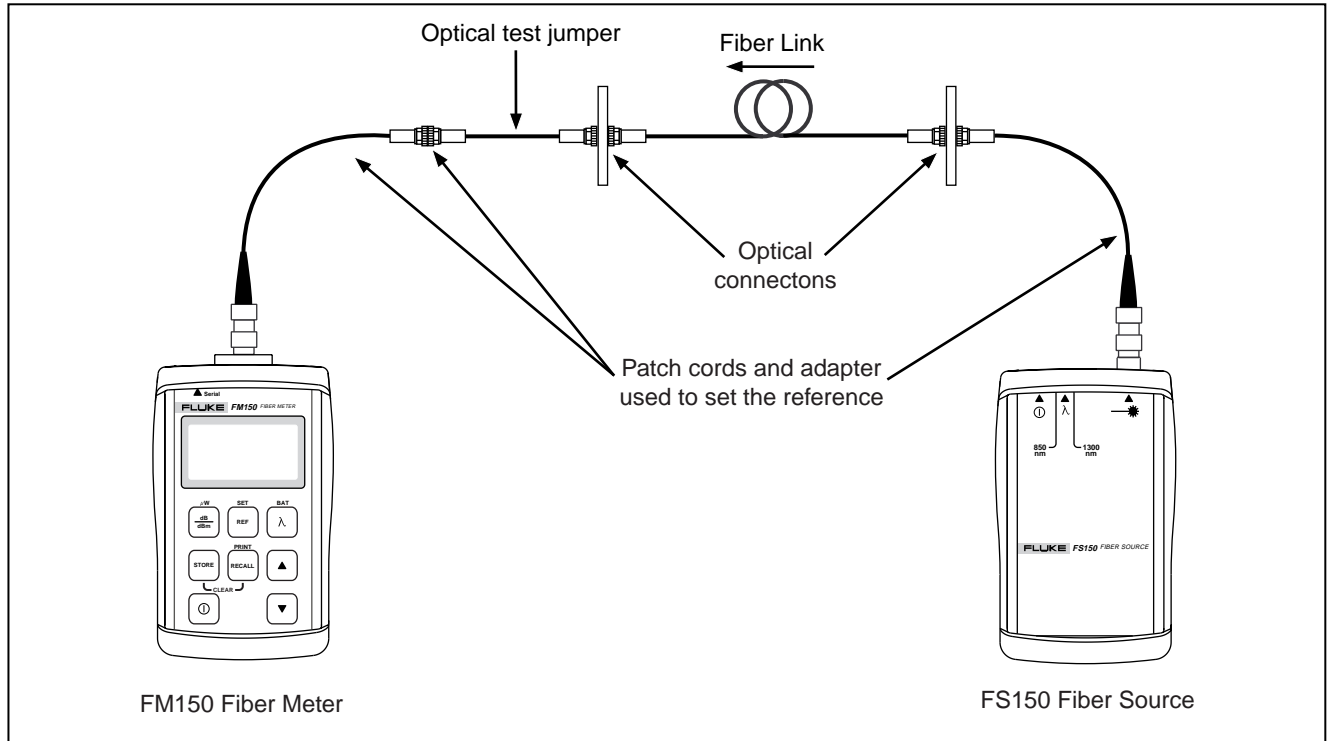

Figure 7. Measuring Loss
4. Make the connections shown in Figure 7.